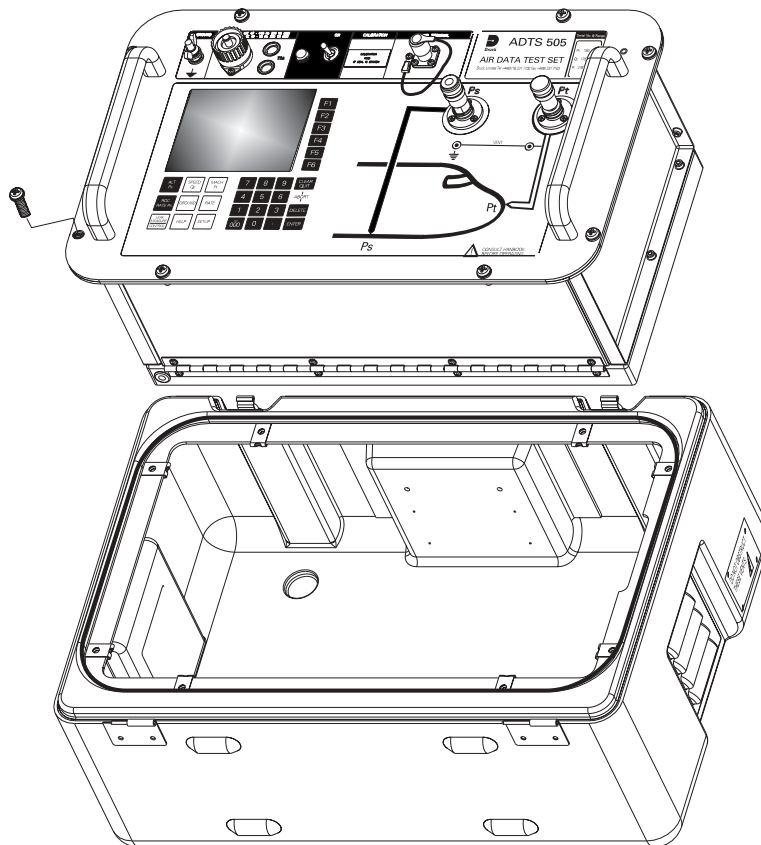

Figure 2-6 Front panel and case
- (1) Maintenance Schedule 1 (Figure 2-6)
- (a) The following procedure requires a Filter Kit (1000 hours) (PL item 20).